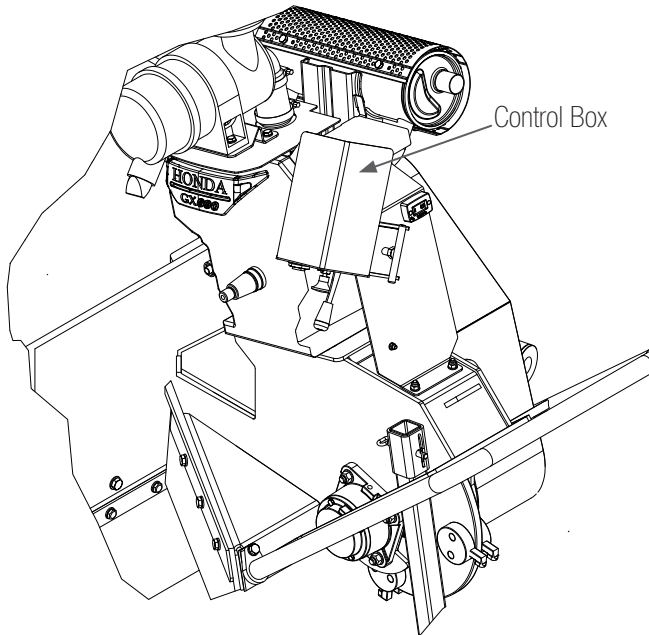

Figure 1. Control Box in stored position
4. Detach the Terminator remote control box from its stored position located at the front of the attachment . See Figure 1.